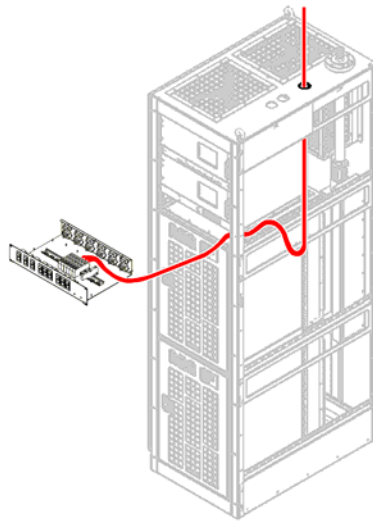

Figure 2-1 AC mains connection to transmitter (transmitter rack side panel removed for clarity)
Connection to the AC distribution chassis is made at an insulated terminal block, which may be accessed by pulling the chassis forward in the rack. See Figure 2-1. AC mains cabling from the customer panelboard enters through an access hole in the roof of the transmitter rack and passes along a hollow space near the rack side panel up to the side entry of the AC distribution chassis. A label on the floor of the chassis, next to the terminal block, indicates the proper connection points for the line (L), neutral (N), and physical earth (PE) connectors (where applicable).
The illustration in Figure 2-1 has been exaggerated for the purpose of clarity. It is not typically necessary to fully disconnect the AC distribution chassis and completely remove it from the cabinet. It is usually pulled forward only the distance necessary to perform the mains connection and the other cables to the chassis remain connected. Removal of the rack side panel is also not required.